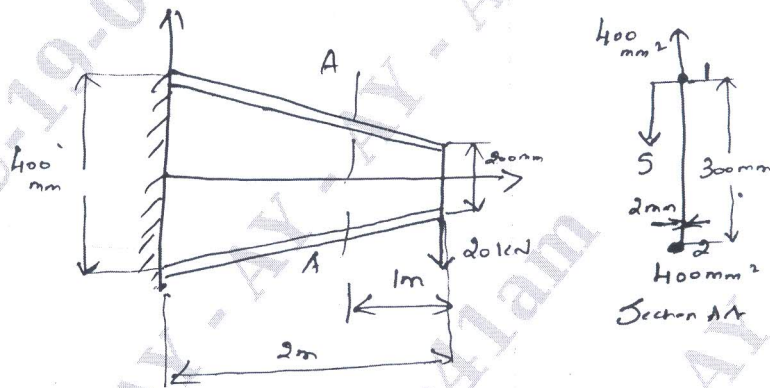

Fig.Q7
- 7 Determine the shear flow distribution in the web of the tapered beam shown in Fig.Q7 at a section midway along its length. The web of the beam has a thickness of 2mm and is fully effective in resisting direct stress. The beam tapers symmetrically about its horizontal centroidal axis and the cross sectional area of each flange is 400mm^2 .